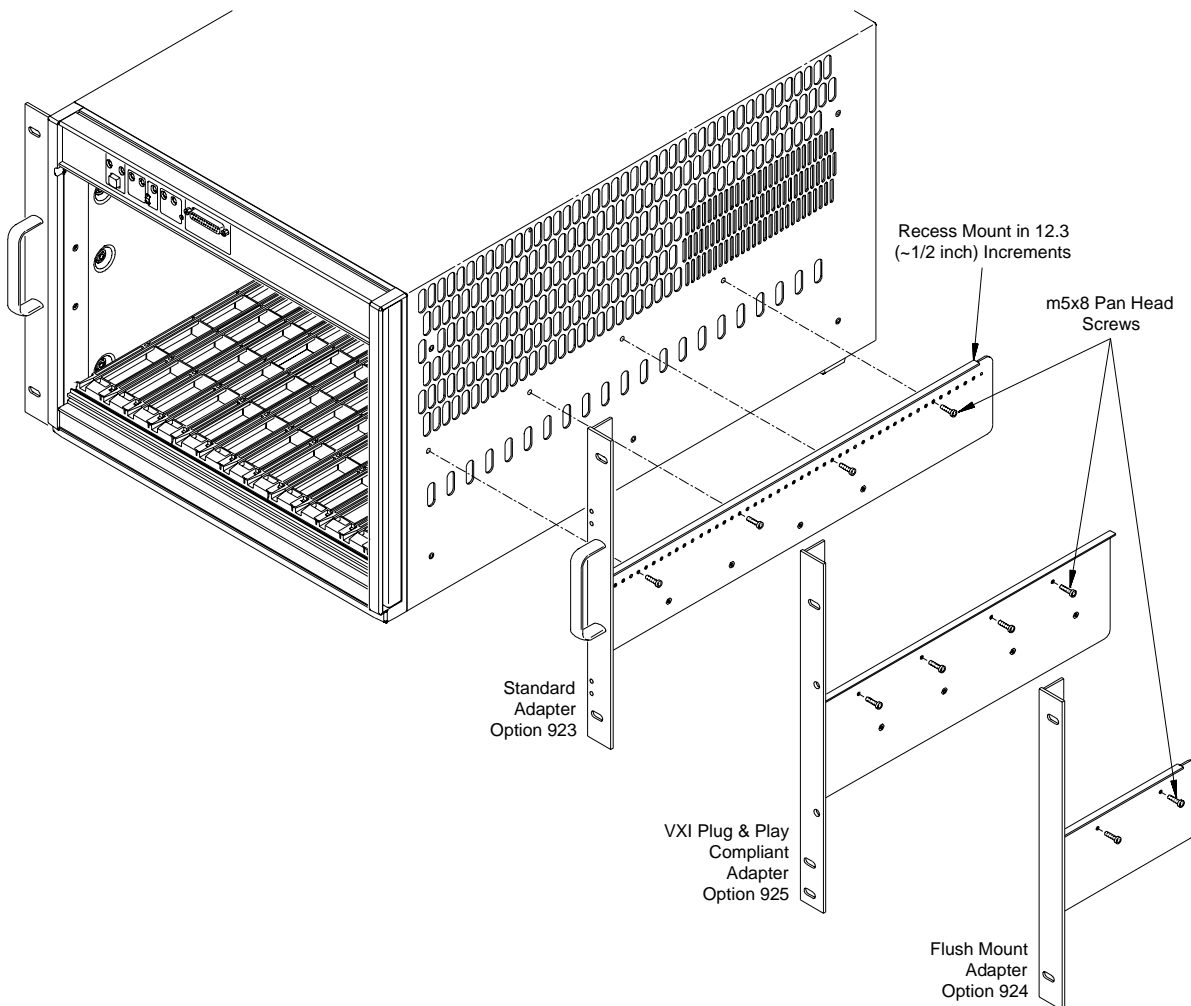

Figure 2-4. Attaching the Rack Mount Adapter to the Mainframe.
5. Attach the rack mount adapters to the mainframe using the m5x8 pan head screws provided. To mount the mainframe flush with the rack front, begin with the 3rd hole from the front of the adapter (Figure 2-4).
The rack mount adapters for the VXI compliant and flush mount options are also shown in Figure 2-4.